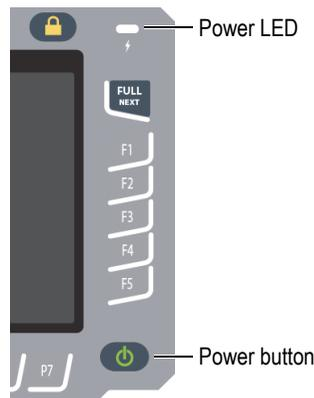

Figure 2-1 Location of the EPOCH 650 power key and indicator
1. Press the Power button to turn on the EPOCH 650 (see Figure 2-1 on page 43).